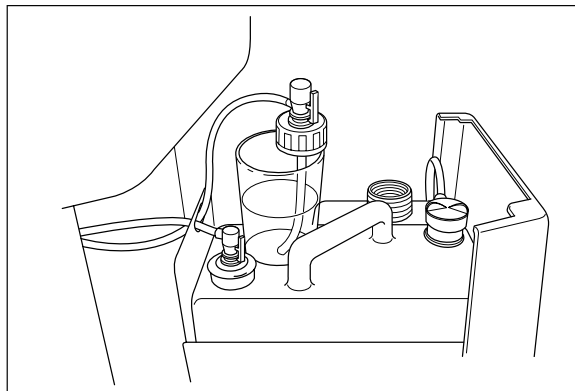

Figure 7.83
9. Put the detached cap in the container filled with the disinfectant solution (see Figure 7.83).